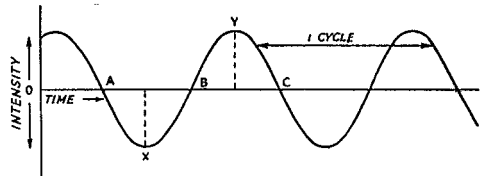
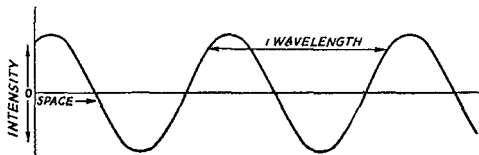

Fig. 1 → Sine-curve representation of intensity variations in a wave field with time, at a fixed observing point.
Fig. 2 — By changing the label on the horizontal axis, the sine curve can be made to represent intensity variations in space at a fixed instant of time.
Fig. 1 — Block diagram of proposed receiver layout at W6OVK. A dual i.f. amplifier, complete with a.m., f.m. and a b.f.o., will permit the desired i.f. amplifier to be connected to any one of the several front-end converters. Directional antennas for the various bands will be permanently connected to these converters.
Fig. 2 — Operation of an amateur station from inside a photography darkroom. The shack is next door to the darkroom as shown in (A) and contains a foot pedal-operated press-to-talk switch, a microphone and a speaker. A remote-local switch in the operating room cuts in the darkroom or ham shack control circuit as shown in (B). Ry_1 turns on the transmitter and Ry_2 cuts off the receiver when either S_1 or S_3 are closed.
Everyone who has done a little reading on radio knows that an electromagnetic wave in space consists of traveling fields of electric and magnetic force. The two fields are separate but not independent, and go through identical variations with time when viewed at a fixed point in space. In the case of a "pure" wave, or one involving only a single frequency, these time variations follow a sine curve; hence we draw (as in Fig. 1) the same curve to represent them that we use to show the variation with time of an alternating current. In the case of the alternating current, the ordinate above the zero axis commonly would be labeled
As applied to a wave, Fig. 1 says that the field (either one, electric or magnetic) exerts its force in some unspecified direction whenever the curve is above the axis and that this direction is reversed whenever the curve is below the axis. The curve does not show the *actual* direction; it has no means of doing so. By definition, the direction of an electric field of force is the direction in which a small positive charge would move when placed in the field; similarly, the direction of a magnetic field is the direction in which a small north pole would move in the field.
By changing the label on the horizontal axis from "Time" to "Space," as in Fig. 2, we can get a different interpretation from the same curve. Now we assume that instead of making our observation at a fixed point in space and letting time run on, we take an instantaneous snapshot of the intensity variations in the field as they are distributed along a line parallel to the direction in which the wave is moving. If we could make time stand still while we moved along such a line measuring the field intensity, the value of the field at any point along the axis would be proportional to the height of the curve above or below the axis at that point. Again we should find a periodic reversal in direction. However, the curve merely says that the direction reverses; it does not say what the direction is. The distance between any two points having the same direction and intensity is equal to the wavelength of the wave, as shown on the drawing. But obviously the curve does not give an actual picture of the wave — no more than it did with the different label in Fig. 1.
tion, which is the direction of the line itself. The magnetic lines surround the conductors of the parallel line, and form concentric circles between the conductors of the coaxial line; they are everywhere perpendicular to the electric lines and to the direction of propagation. This is shown in Fig. 4. The intensity of the fields varies along the line at any instant just as in the case of the space wave whose intensity-space variation is shown in Fig. 2, and the intensity varies with time at a given point as shown in Fig. 1.
A simple graphical approach to this requires still another method of depicting the wave. Suppose that the sine curve of Fig. 2 showing the space distribution of the field intensity at a given instant is imagined to exist in three dimensions, resembling corrugated paperboard or a corrugated tin roof. Then Fig. 2 is a view of the edge, and a rough indication of the top view of the curve is given by Fig. 8, where a thin line represents a null, a solid heavy line a positive maximum and a dashed heavy line a negative maximum. Keep in mind that the lines in this method of representation are not lines of force (that is, they do not show the direction of the field) but simply mark the regions in space where maxima and nulls exist. We are looking down on the wave in much the same way that we can look down on ripples in a stream from the vantage point of a bridge. The direction of travel is perpendicular to the lines of maxima and minima, just as the direction of travel of water waves is perpendicular to the "ridges" in the water. The distance between any two adjacent lines in the direction perpendicular to them is a quarter wavelength, between any two alternate lines a half wavelength, and so on.